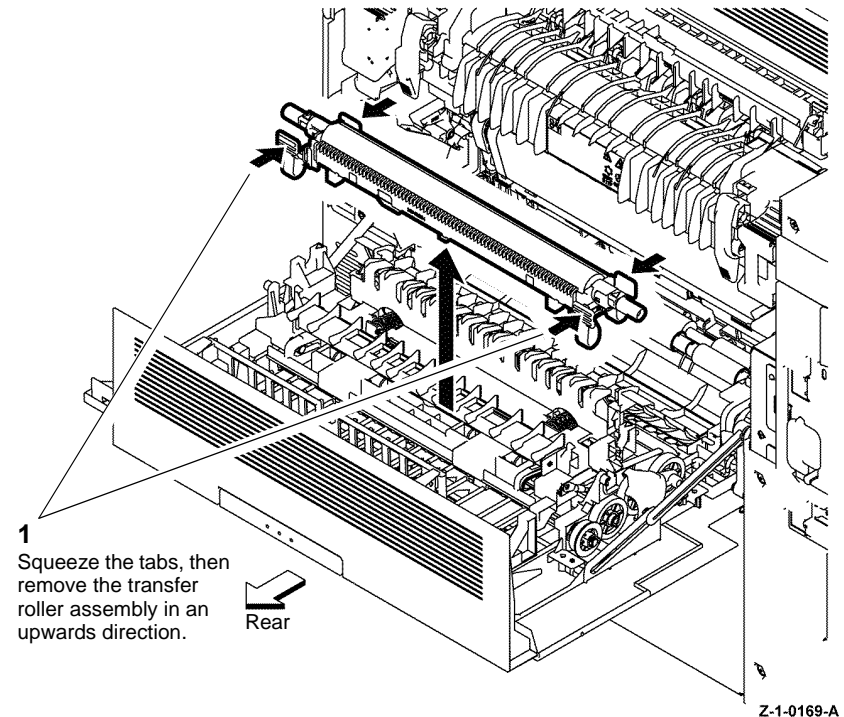

Figure 1 Remove the transfer roller
2. Remove the transfer roller, Figure 1.